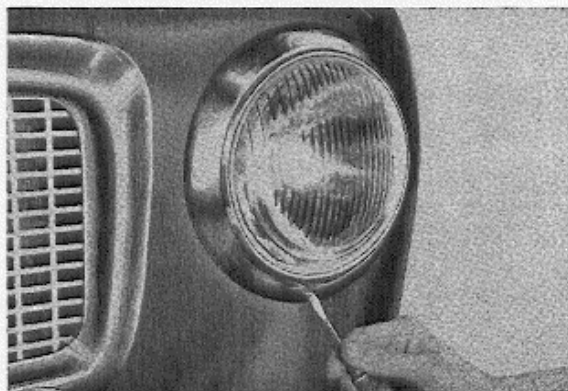

Fig. 10. Removing headlight rim screw.
1. Remove the headlight rim screw, see Fig. 10.